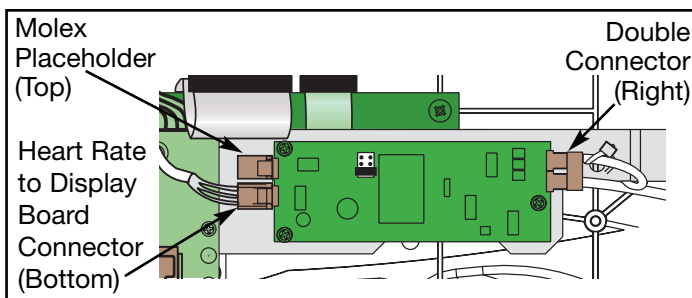

Figure 25
- B.** If you're not replacing the cable, disconnect the two cables and one molex placeholder from the heart rate board. (You will re-attach the molex connector in step 4A). See Figure 25.
- A. Locate the side of the heart rate board with the two holes and place the molex placeholder over the top three pins. See Figure 25.
- A. Connect the double connector into the right side of the heart rate board. See Figure 25.
- A. Confirm that the two cables and one molex placeholder are firmly connected to the heart rate board in their proper places. See Figure 25.